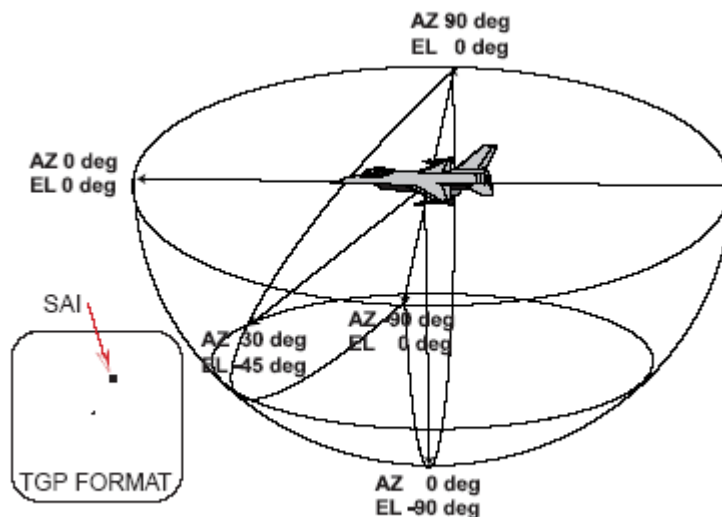

Figure 4-3 TGP LOS Positions Relative To The Aircraft
- 6) Snowplow (SP) Sighting (OSB #8): When selected the TGP is slaved to $\frac{1}{2}$ the selected FCR range until the selected waypoint is ground-stabilized via TMS forward. "SP" is highlighted when selected. This does not currently work correct in Falcon4 and should not be used.
- 9) Situation Awareness Indicator (SAI): A small square appears on the TGP format indicating TGP Line-of-Sight (LOS) in azimuth and elevation. The square is positioned around the center of the display at its azimuth relative to the nose of the aircraft, and its position from the center of the display indicates its elevation with the center representing -90 degrees elevation and the edge 0-degrees. Some examples may help clarify this scheme: The 12-o'clock position at the top of the display indicates 0-degrees relative azimuth and 0-degrees elevation; the 3-o'clock position at the right edge of the display indicates 90-degrees azimuth and 0-degrees elevation. A position half way between the edge and center of the display indicates -45-degrees elevation; and the center of the display indicates -90-degrees elevation. The 6-o'clock position half way between the center and bottom of the display indicates 180-degrees azimuth and -45-degrees elevation. Figure 4-3 shows TGP LOS positions relative to the aircraft.